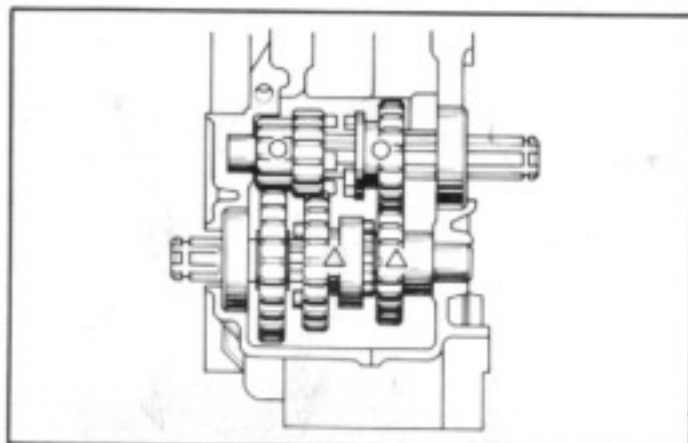

Fig. 45 Neutral position
1. Note the right position of each component referring to Fig. 45~48.